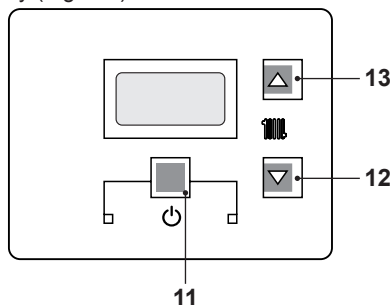

Fig. 7.5
- Press the 11 key for 2 seconds until both  symbols appear on the display (Fig. 7.5).
- Switch off the boiler by pressing the 11 (Fig. 7.5) key for 2 seconds until the  symbol appears on the LCD display (Fig. 7.4).